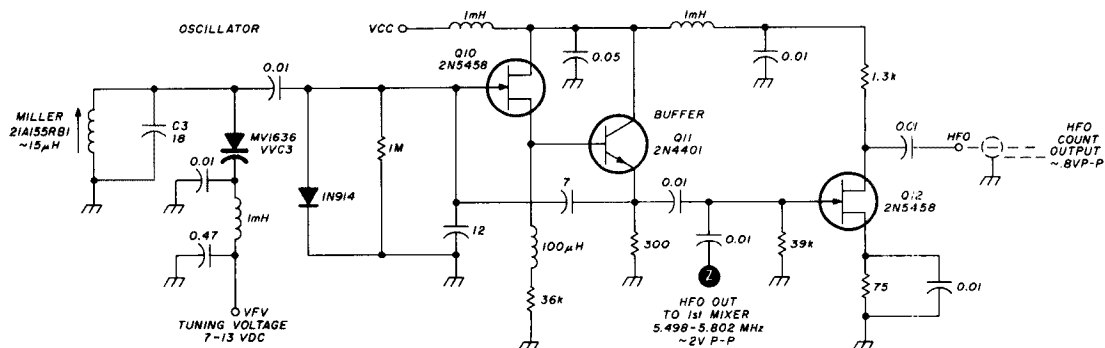

fig. 7. High-frequency-oscillator schematic.
5. The HFO V_{FV} fine band-edge voltage levels should be set as shown in the schematic. With the tuning potentiometer set at the indicated levels, or using an external supply, apply ≈ 11 volts to VVC3 cathode. With V_{CC} applied, adjust L3 slug until a 5.65-MHz signal is available on Q2 gate 2. Adjust the source swamping resistor (30k) for the output amplitude shown in fig. 7. Traverse the tuning range and alter-